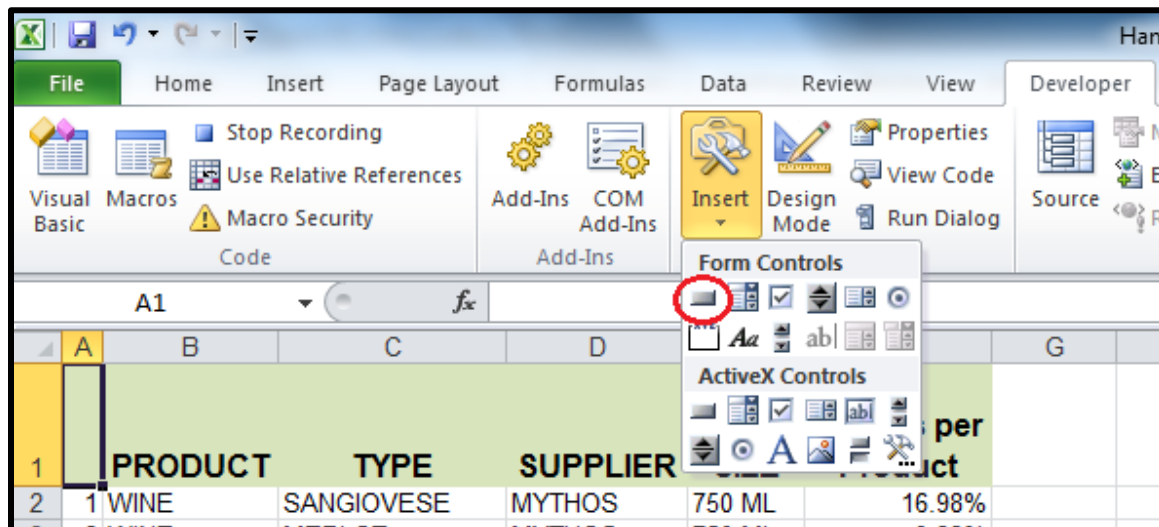

Figure 15 - Form Controls with button (Form Control) icon
- Again using the Product Analysis worksheet and the **Developer** tab, in the **Controls** section, **Insert**. See Figure 15 for the tools that should appear.